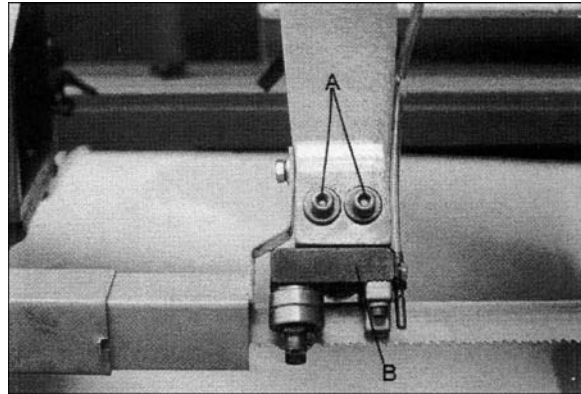

Figure 9
2. Loosen two hex socket cap screws (A, Figure 9). Note: Left guide roller has two hex socket cap screws; right guide roller has one (HBS-916W only). The HBS-1018W has two screws on each guide.
3. Move guide seat (B) up or down until a clearance of .003" to .005" between back of blade and thrust roller is obtained.
4. Tighten two hex socket cap screws (A).